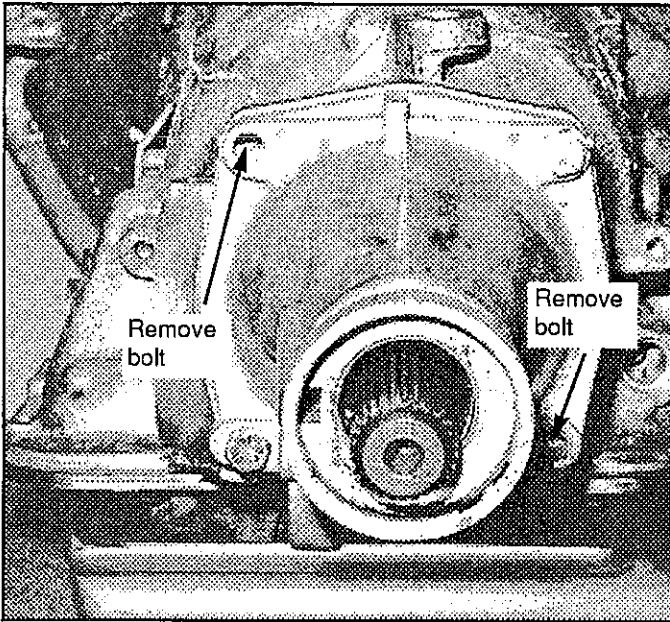
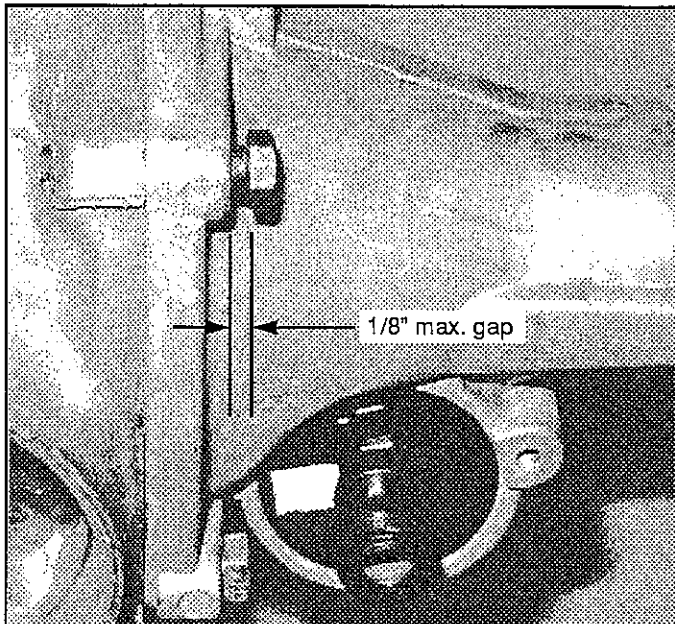
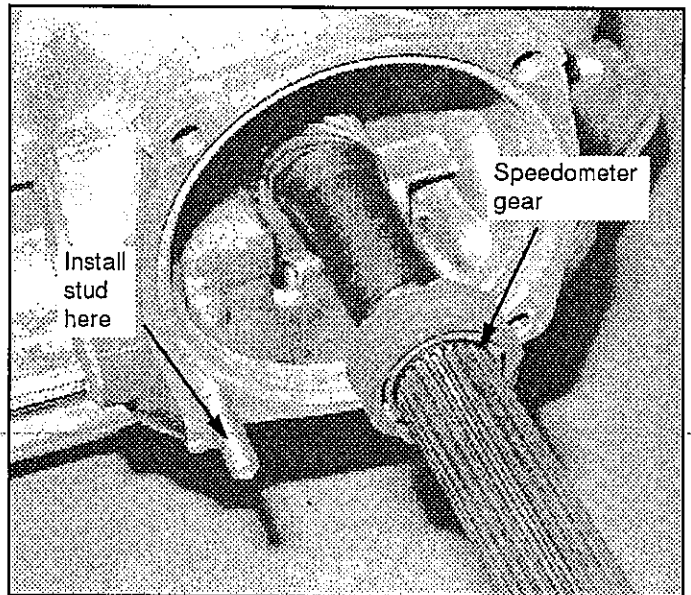
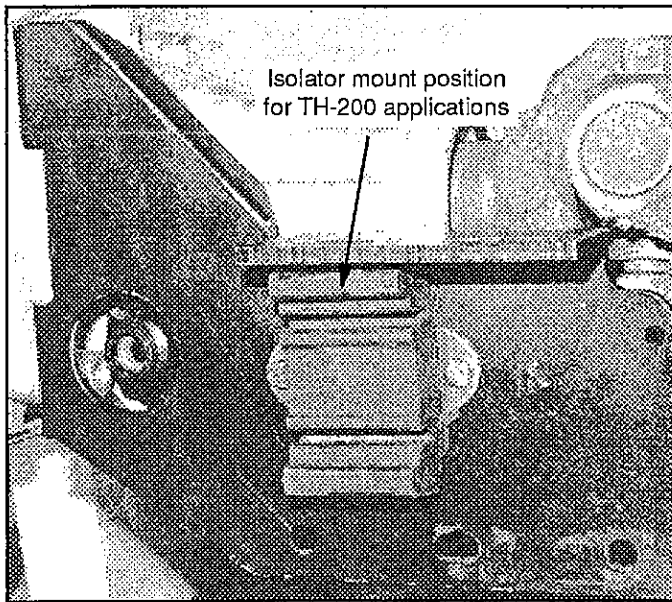

Figure 2
Figure 3
Figure 4
Figure 5
**STEP 7.** Torque arm inner bracket installation. Remove two extension housing bolts shown in Fig. 2. Install two (2) 3/8"-16 x 1 5/8" bolts where shown as a check to see if the bolts bottom out before the head makes contact. The objective is to obtain a gap between the bolt's head and extension housing of 1/8" or less (Fig. 3), this will insure maximum thread engagement when the inner torque arm bracket is installed. If necessary, tap the case threads deeper with a 3/8"-16 tap rather than shortening the bolts. Remove extension housing (This is a good time to swap speedometer gears if you have not already done so), and thread the short threaded end of supplied stud in lower left hand case hole (See Fig. 4). Use two nuts wrenched together on opposite end of stud to drive stud in. Install the B&M inner torque arm bracket as shown (Fig. 5 or
**A.** TH-200 Applications. Remove the insulator mount from inner torque arm support bracket and attach it to the B&M torque arm bracket in the position shown in Fig. 5. You will reuse the stock outer bracket and isolator.